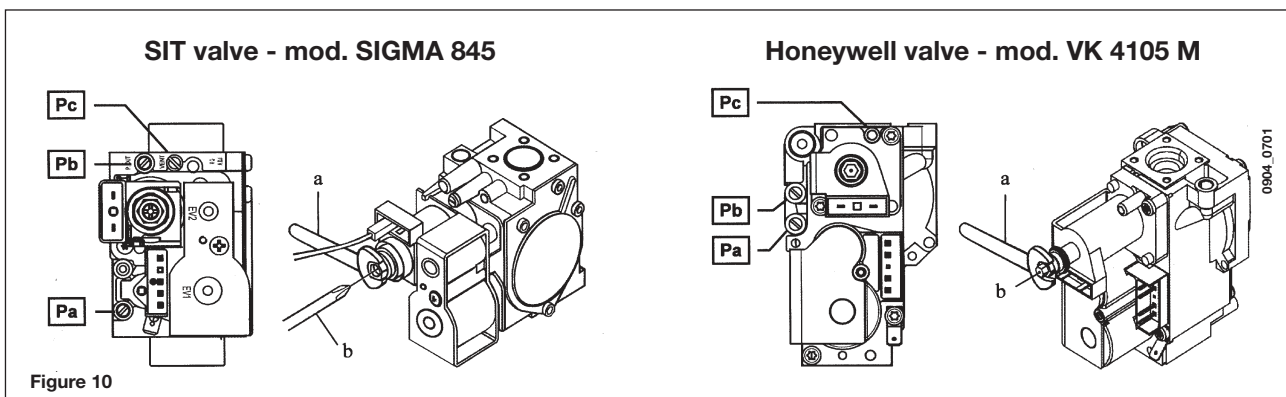

Figure 10
The procedure for calibrating the pressure regulator varies slightly according to the type of gas valve fitted (**HONEYWELL** or **SIT**, see figure 10).
- connect the positive pressure test point of a differential pressure gauge (possibly water-operated) to the gas valve pressure test point (**Pb**) (Figure 10). Only for models with sealed chambers, connect the negative pressure test point of the pressure gauge to a "**T**" fitting in order to join the boiler adjustment outlet, the gas valve adjustment outlet (**Pc**) and the pressure gauge. (The same measurement can be made by connecting the pressure gauge to the pressure test point (**Pb**) after removing the front panel of the sealed chamber). Measuring burner pressure using methods other than those described could lead to incorrect results as the low pressure created by the fan in the sealed chamber would not be taken into account.
- make sure that the dynamic inlet pressure of the boiler, measured at the gas valve pressure test point (**Pa**) (Figure 10) is correct (37 mbar for propane or 20 mbar for natural gas).